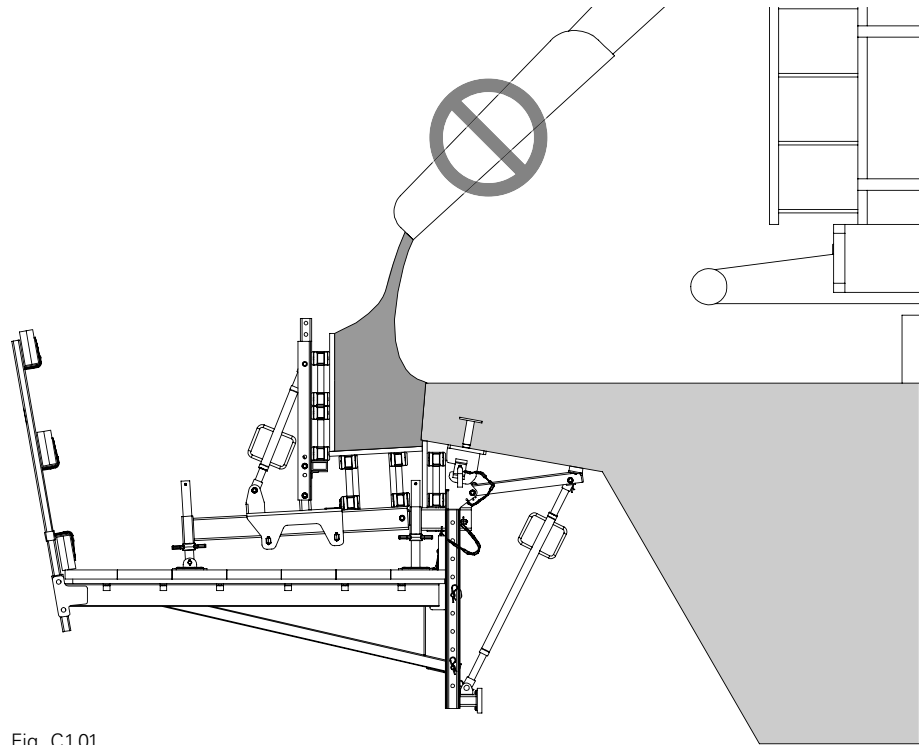

Fig. C1.01
- Avoid any accumulation of concrete in the area of the Cantilevered Parapet Bracket! (Fig. C1.01)